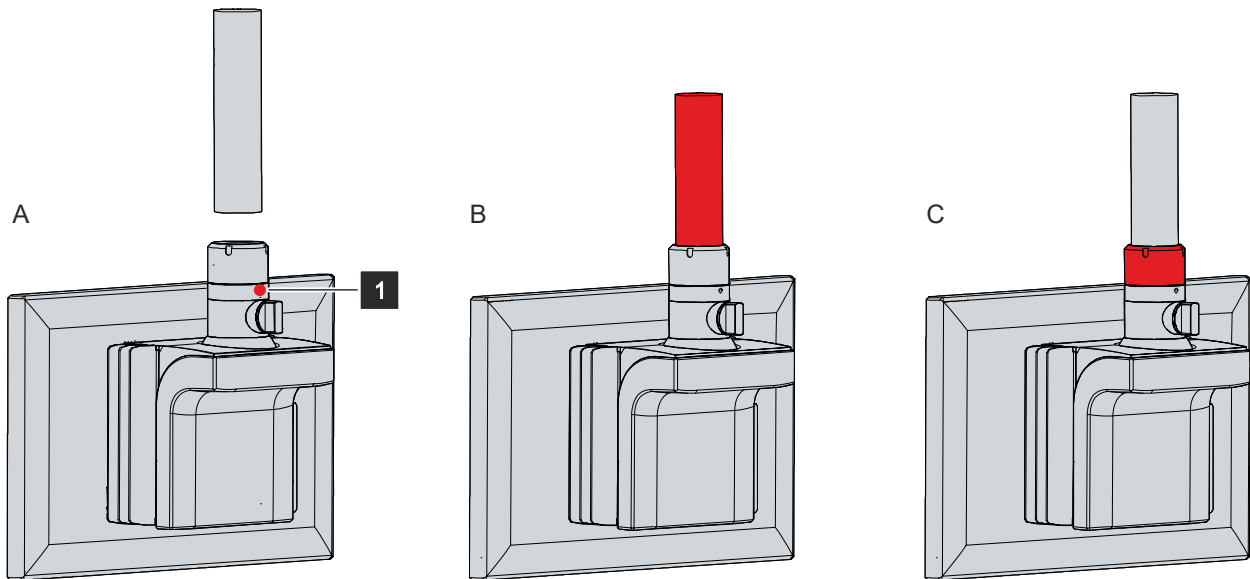

Fig. 11: Mounting arm tube installation
Figure 11 shows the standard variant with mounting arm adapter from above (1) and the option with mounting arm adapter from below (2). Regardless of whether the mounting arm adapter is aligned upwards or downwards, it has a locking screw to prevent it from rotating and can be swiveled by $\pm 165^\circ$. The adapter adapts the Panel PC with a 48 mm circular tube. The permissible tolerance is -0.1 to $+0.8$ mm.